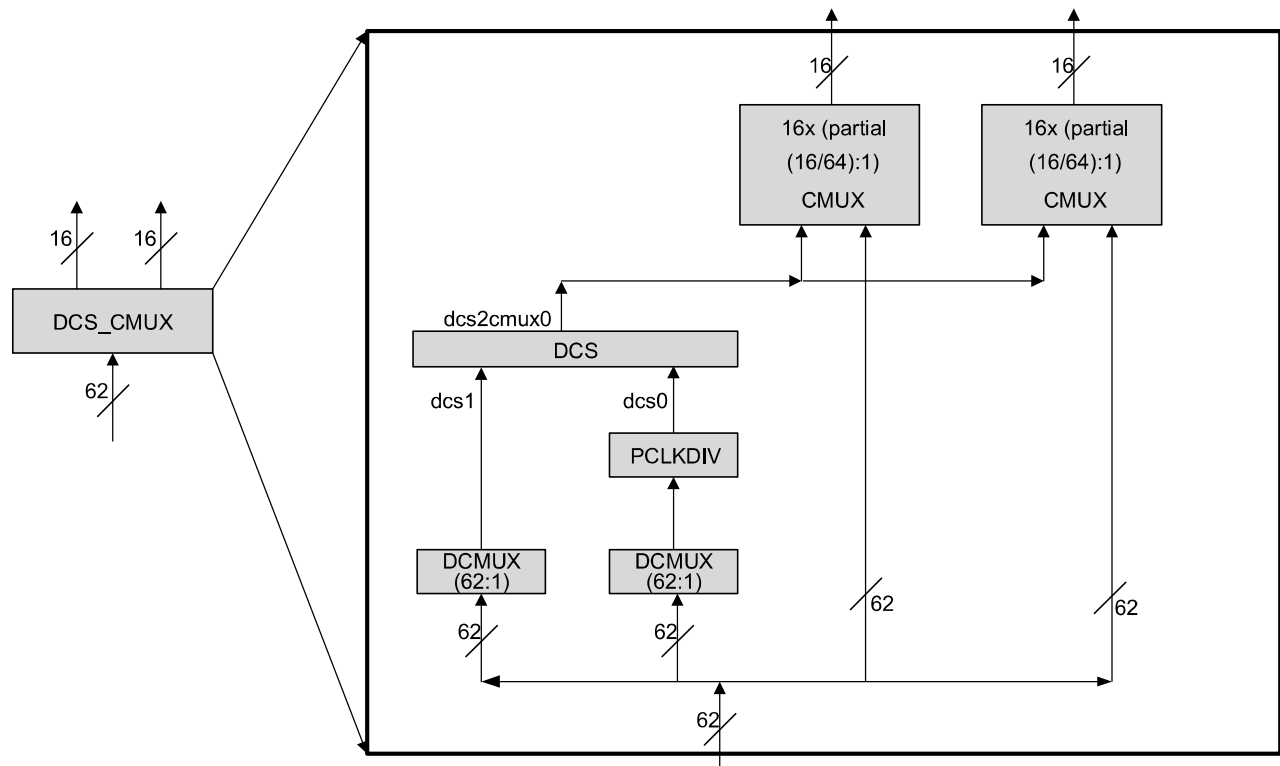

Figure 2.9. DCS_CMUX Diagram
The PCLKDIV supports $\div 2$, $\div 4$, $\div 8$, $\div 16$, $\div 32$, $\div 64$, $\div 128$, and $\div 1$ (bypass) operation. The PCLKDIV is fed from a DCSMUX within the DCS_CMUX block. The clock divider output drives one input of the DCS Dynamic Clock Select within the DCS_CMUX block. The Reset (RST) control signal is asynchronous and forces all outputs to low. The divider output starts at next cycle after the reset is synchronously released. The PCLKDIV is shown in context in Figure 2.9.
All clock sources are selected and combined for primary clock routing through the Dynamic Clock Selector Center Multiplexer logic (DCS_CMUX). There are one (1) or two (2) DCS_CMUX blocks per device. Each DCS_CMUX block contains two DCSMUX blocks, one PCLKDIV, one DCS block, and 1 or 2 CMUX blocks. See Figure 2.9 for a representative DCS_CMUX block diagram.